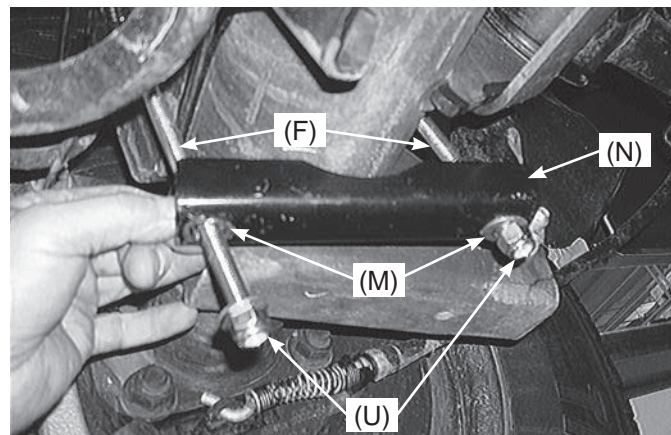

fig. 18
5. Set the clamp bar (N) over the two long carriage bolts (F) under the axle and cap with two 3/8" flat washers (M) and 3/8" nyloc nut (U) (Fig. 18).